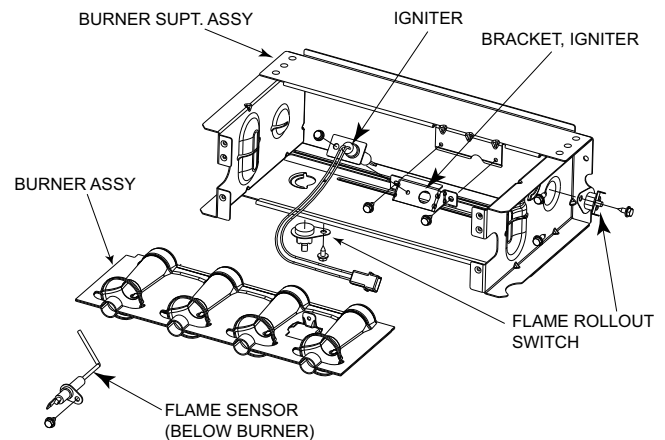
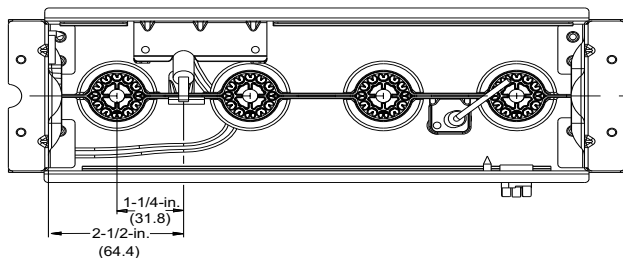
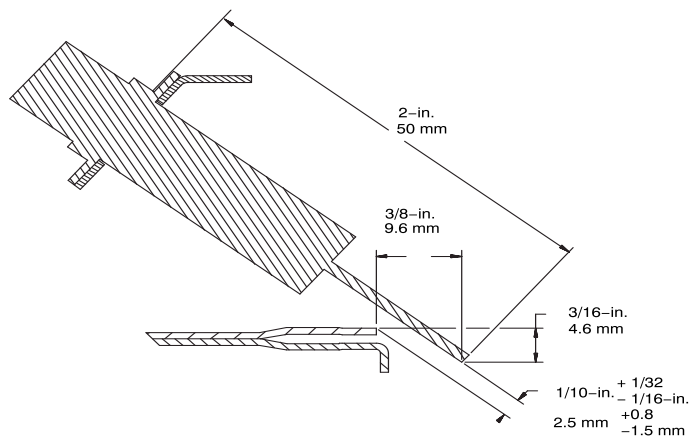

Fig. 69 – Burner Assembly
Fig. 70 – Igniter Position - Top View
Fig. 71 – Igniter Position - Side View
Refer to Fig. 69.
8. Check the igniter alignment. See Fig. 69, Fig. 70, and Fig. 71.
The igniter does **NOT** require annual inspection. Check igniter resistance before removal. Refer to Fig. 69, Fig. 70, and Fig. 71.
- a. Using a 1/4-in. driver, remove the two screws securing the igniter mounting bracket to the burner assembly (Fig. 69).
6. To replace igniter and bracket assembly, reverse items 5a through 5d.
7. Reconnect igniter harness to the igniter, dressing the igniter wires to ensure there is no tension on the igniter itself (Fig. 69).